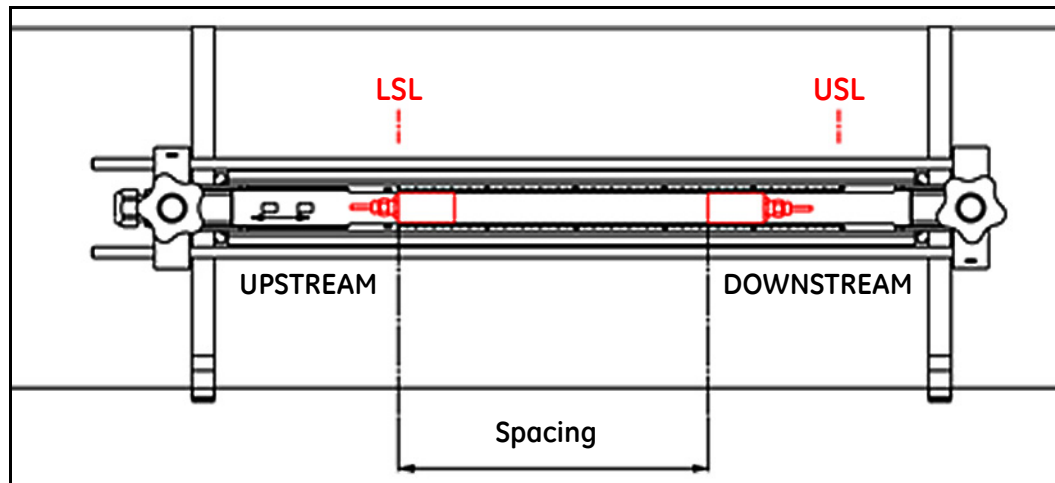

Figure 14: Installation for 2 Traverses with 1 Fixture
5. See Figure 14 below for an example of a completed installation. In this drawing, **LSL** is the *Lower Specified Limit* and **USL** is the *Upper Specified Limit* for the installation.